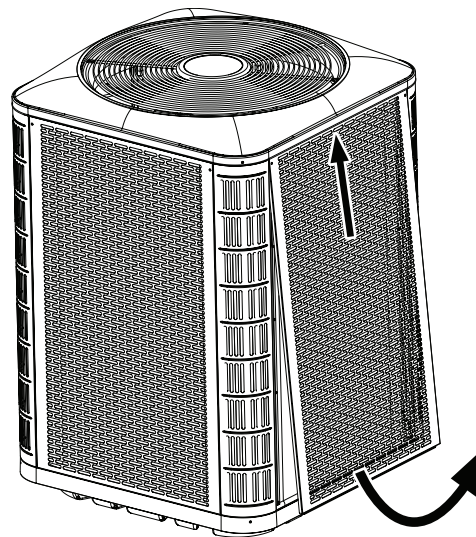
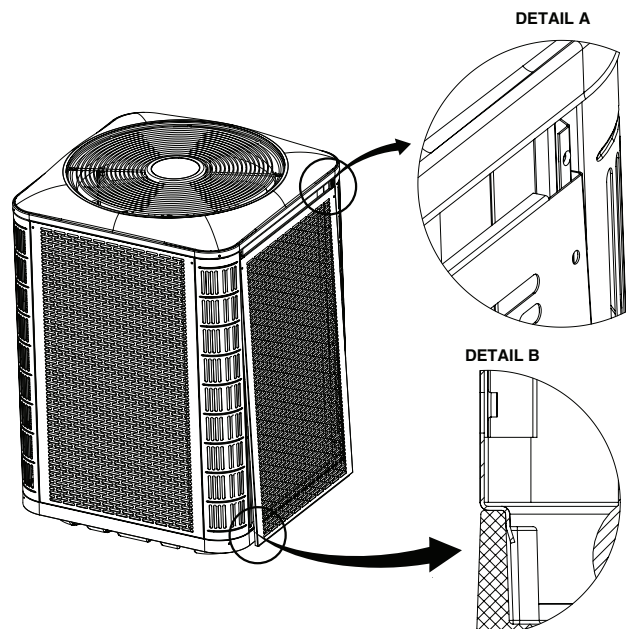

Figure 2. Panel Removal
Figure 3. Panel Installation
- To access the outdoor coil on units equipped with louvered panels, refer to Figure 2 for panel removal and Figure 3 for panel installation.
2. Slide the panel up towards the top pan in order to clear the bottom flange from the base pan. See Figure 2.
1. Insert the top corners of side panel flanges into the corner post channels as shown in Detail A in Figure 3.